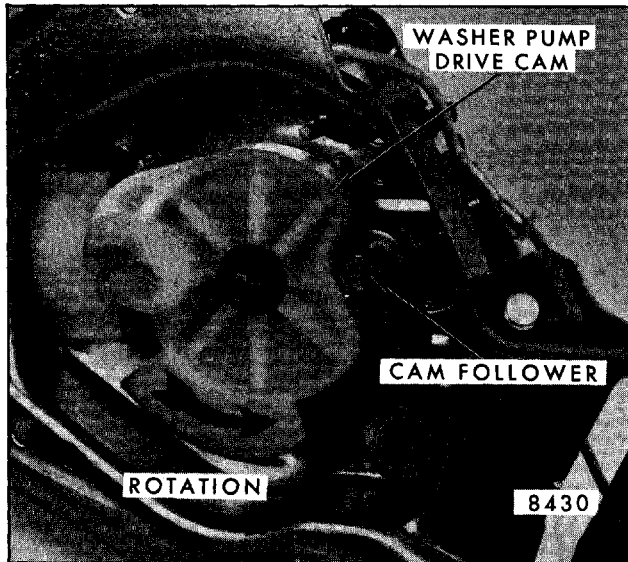
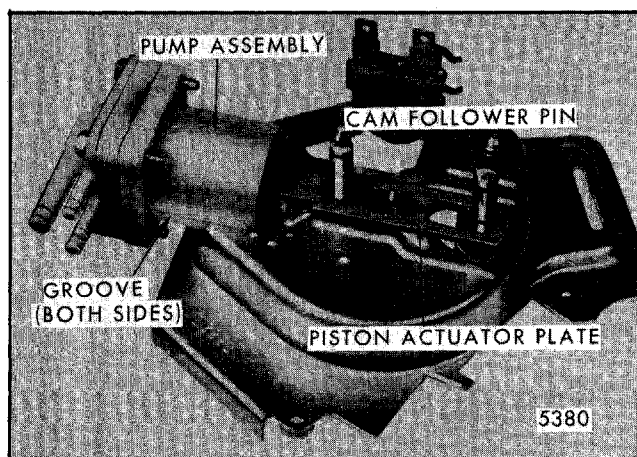
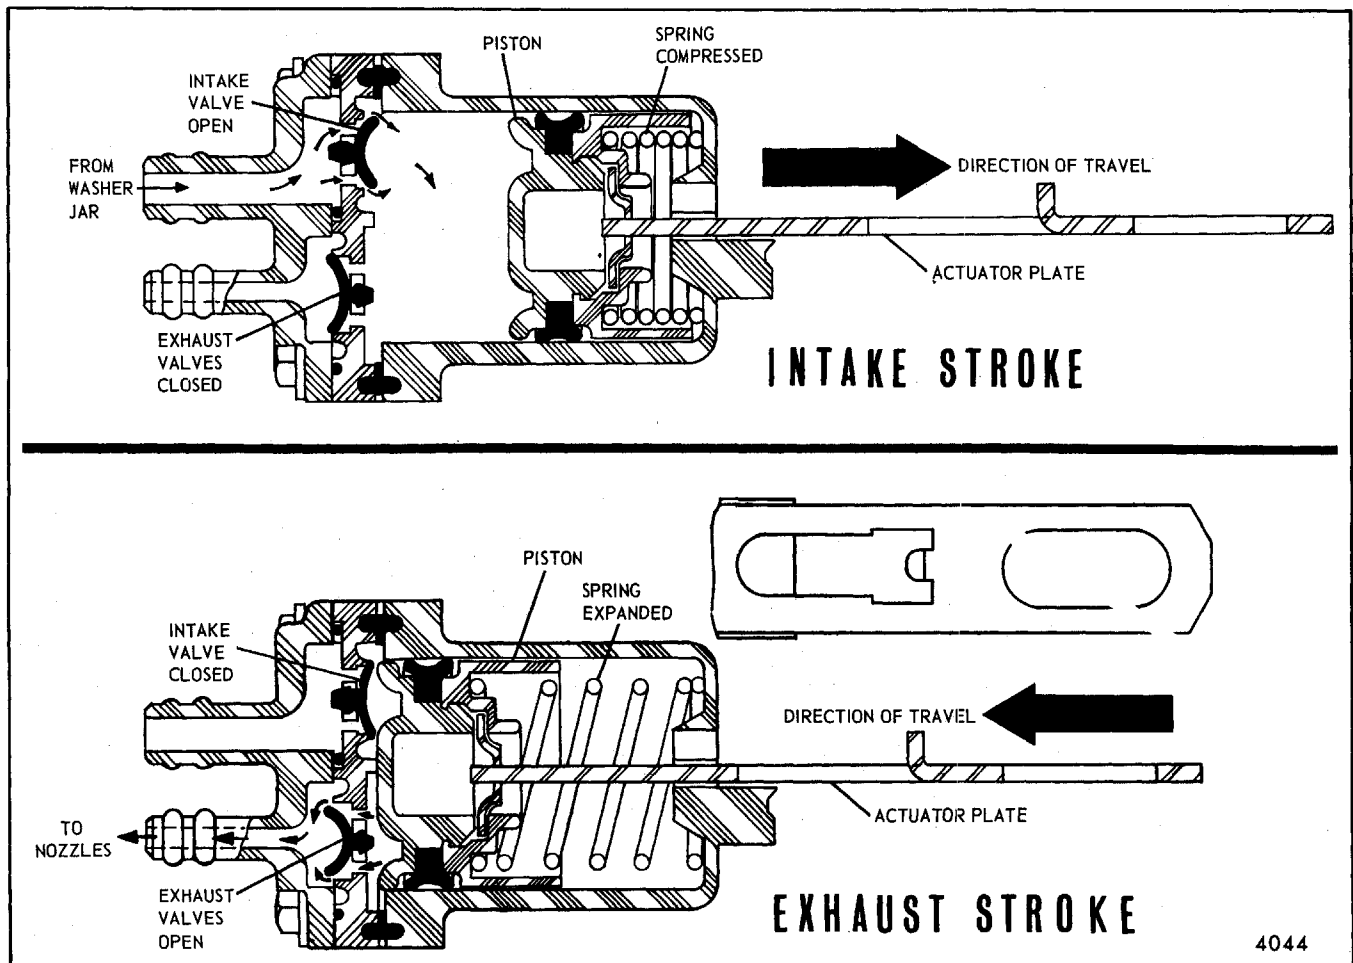

Fig. 2-134-Washer Pump Cam Rotation
Fig. 2-139-Pump Intake Stroke
Fig. 2-142-Intake and Exhaust Stroke
When the cam-follower moves in the direction indicated by the arrow in Figure 2-134, the cam-follower pin, which extends through the piston actuator plate, pulls the actuator plate away from the valve assembly compressing the piston spring. As the piston moves away from the valve assembly, a vacuum is created in the cylinder which opens the intake valve, drawing washer solution into the cylinder (Fig. 2-142).
2. To release the plastic pump housing from the sheet metal base, pull it in the direction toward the valve end until the grooves in the housing clear the base. Next, detach the assembly from the cam-follower pin (Fig. 2-139).
holding switch, (4) solid state electronic device and (5) a special drive cam (Fig. 2-134). These special components serve the following functions:
assembly consisting of two exhaust valves and one intake valve is attached to the opposite end of the cylinder housing and controls the flow of washer solution (Fig. 2-139).
NOTE: Figures 2-139 and 2-140 show the pump with most of the programming parts removed for illustrative purposes.
Referring to Figure 2-139 note that the elongated slot of the piston actuator plate fits over a pin. This pin is a part of a cam-follower assembly which is actuated by a drive cam located on the underside of the pump mounting plate (Fig. 2-134). When the wiper is running, the drive gear rotates the drive cam which in turn causes the cam-follower to move back and forth.
Note that a tang on the piston actuator plate is resting against a ramp on the lower surface of the ratchet gear (Fig. 2-139). This holds the piston actuator plate in a lock-out position as long as the RATCHET GEAR IS NOT ROTATED.
The ratchet pawl, which is actuated by the same cam-follower pin that moves the piston actuator plate, then begins to rotate the ratchet wheel. Rotating the ratchet wheel one tooth moves the ratchet wheel ramp away from the tang of the piston actuator plate (Fig. 2-139), permitting the piston spring to expand which, in turn, forces the piston toward the valve assembly resulting in the first exhaust stroke (Fig. 2-142).
follower pin to move the actuator plate and piston in a direction that will compress the piston spring, causing washer solution to be drawn into the piston housing via the intake valve (intake stroke, Fig. 2-142).